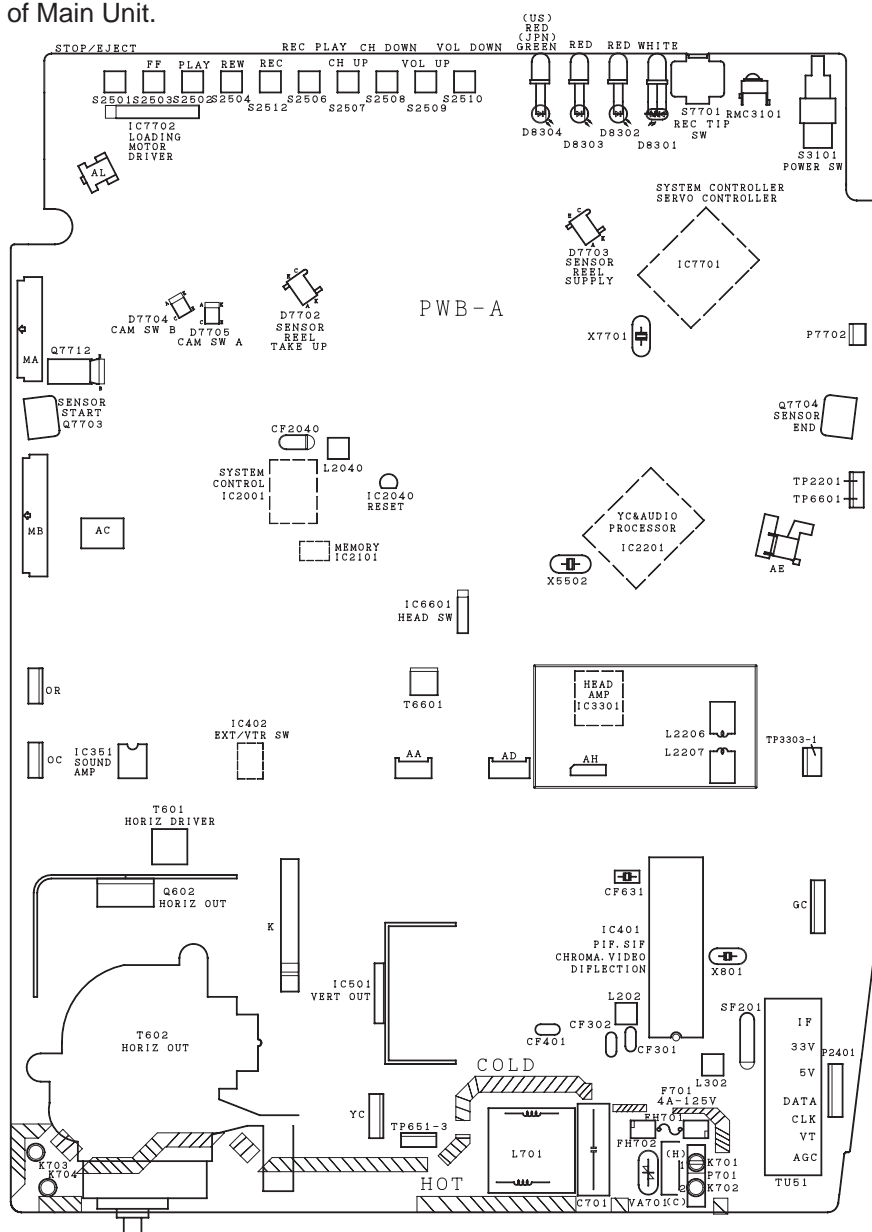

Figure 2-1.
3. Press the PLAY button of remote control to make the adjustment of head switching point, then the leading edge of the head switching pulse is automatically set  $5.5H$  (lines) ahead of the vertical sync as shown Figure 2-1 and the adjustment data is memorized in the E2P-ROM IC.